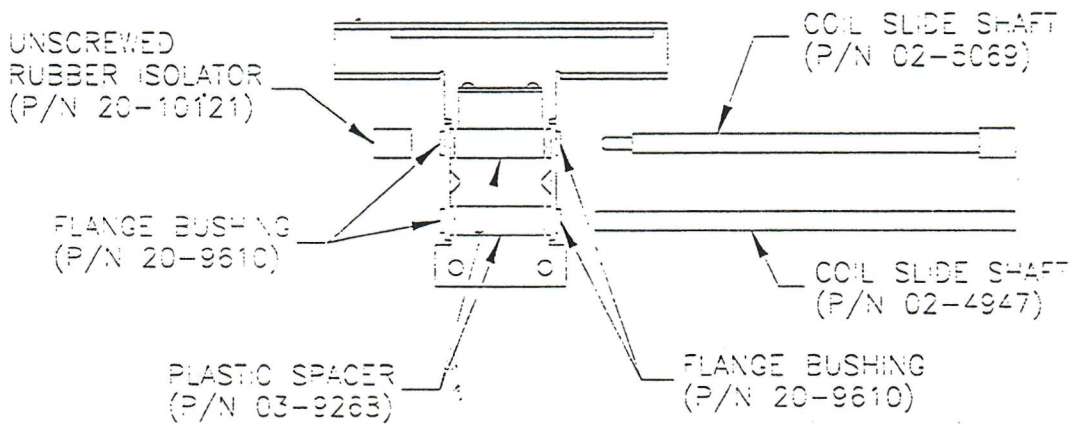

FIGURE 7
4. Remove COIL SLIDE SHAFT (P/N 02-4947) by sliding it through the FLANGE BUSHINGS (P/N 20-9610) and PLASTIC SPACER (P/N 03-9268). Unscrew by twisting manually, counterclockwise, one of the RUBBER ISOLATORS (P/N 20-10121) from the second COIL SLIDE SHAFT (P/N 02-5069). Slide second coil slide shaft through flange bushings and plastic spacers (See Fig. 7).